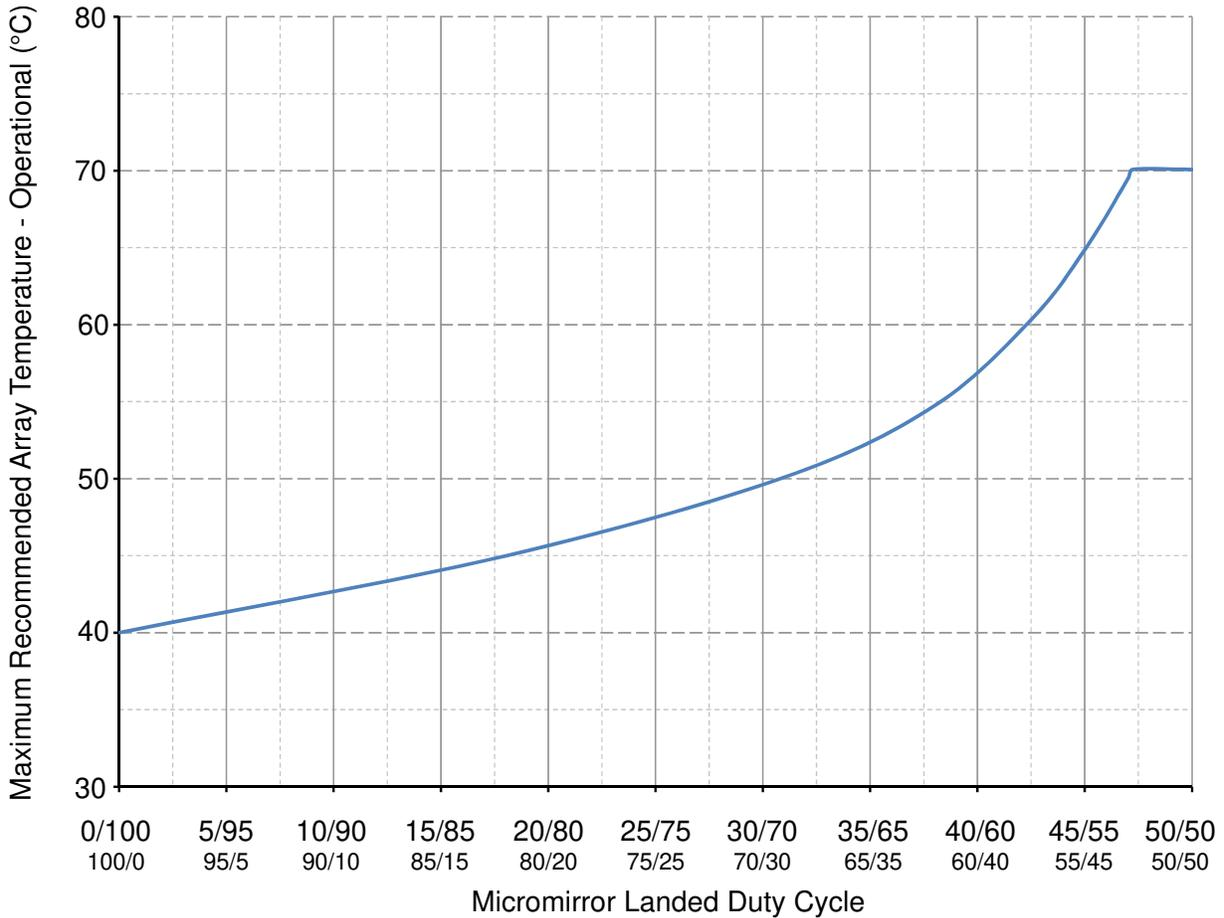

Figure 6-1. Recommended Maximum DMD Temperature—Derating Curve
- (13) Long-term is defined as the average over the usable life.
- (14) Per Figure 6-1, the maximum operational array temperature should be derated based on the micromirror landed duty cycle that the DMD experiences in the end application. See Section 7.7.
- (15) Short-term is the total cumulative time over the useful life of the device.